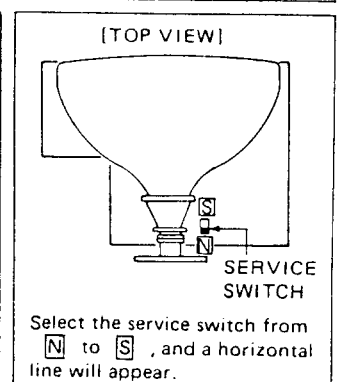

Fig. B-6
4. Display a horizontal line. (Refer to "HORIZONTAL LINE" or Fig. B-6)
8. Return the monochrome pattern. (Refer to "HORIZONTAL LINE" or Fig. B-6)